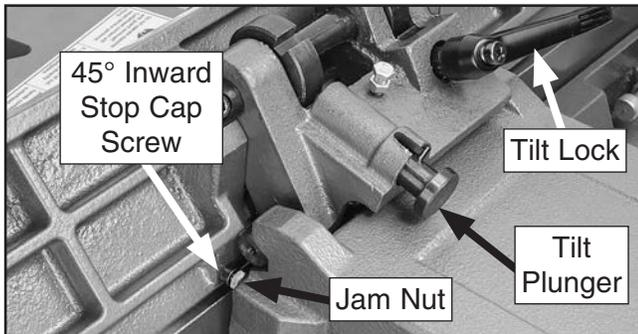

Figure 83. 45° inward positive stop cap screw.
2. Pull out and lock tilt plunger (see **Figure 83**), loosen fence tilt lock and fence lock, then tilt fence approximately 45° inward onto stop cap screw.
4. Loosen jam nut shown in **Figure 83**.
2. Pull out and lock tilt plunger (see **Figure 83**), loosen fence tilt lock and fence lock, then tilt fence against 45° outward stop bolt.